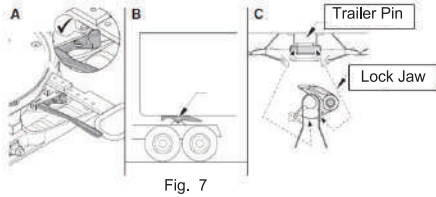

Fig. 7
8- As shown in Figure 7, carry out the visual check for fully locking in order (A, B, C).
**Check A:** Check the safety lever, the latch on the safety lever and the adjustment plate. The safety lever and the latch on the safety lever should be in the position shown in Figure 7-A.